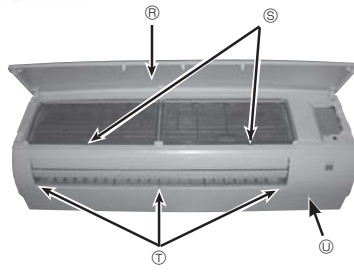

Fig. 6-2
- 1 Press and unlock the knobs on both sides of the front grille and lift the front grille until it is level. Pull the hinges forward to remove the front grille. (Fig. 6-2)
- 2 Remove 3 screw caps of the panel. Remove 5 screws. (Fig. 6-2)
- 7 Remove the screw of the corner box. (Fig. 6-2)